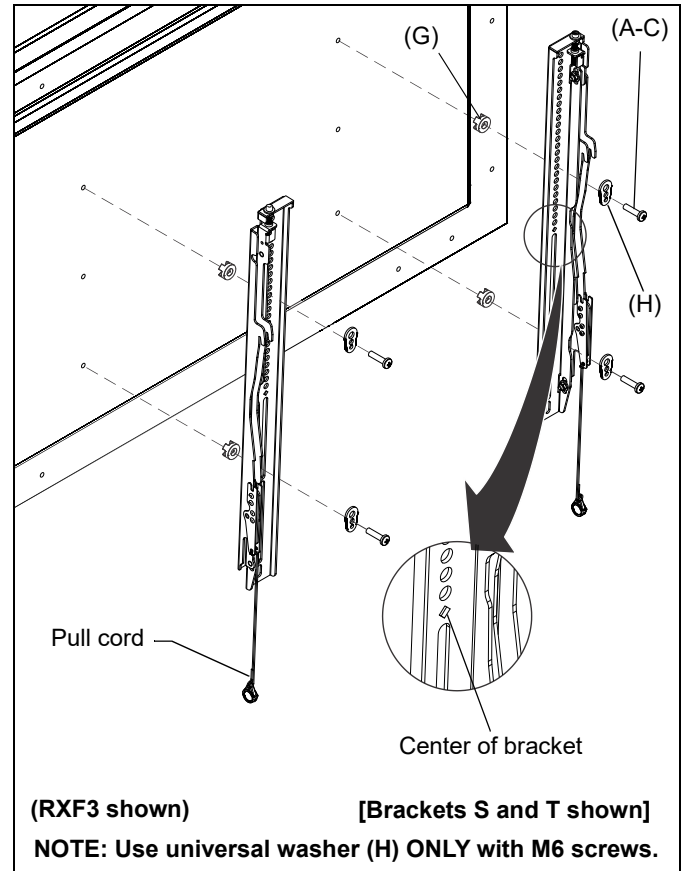

Figure 9
1. Align the center of the bracket (Q and R or S and T) with center of screen. (See Figure 9)
2. Select correct screws, nesting spacers (if necessary) and universal washers (if required) from the hardware bag (A-H) and attach brackets to back of screen. (See Figure 9)